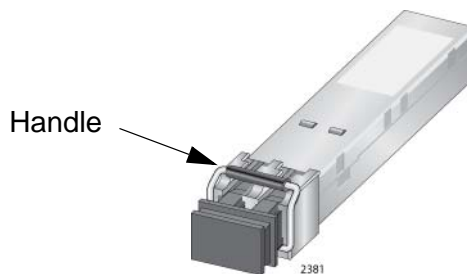

Figure 85. Handle on SFP Transceiver
3. To install the transceiver in an SFP slot on the top row of the line card, orient the transceiver with the handle on top, as shown in Figure 85. To install it into a slot on the bottom row of the line card, orient it with the handle on the bottom.